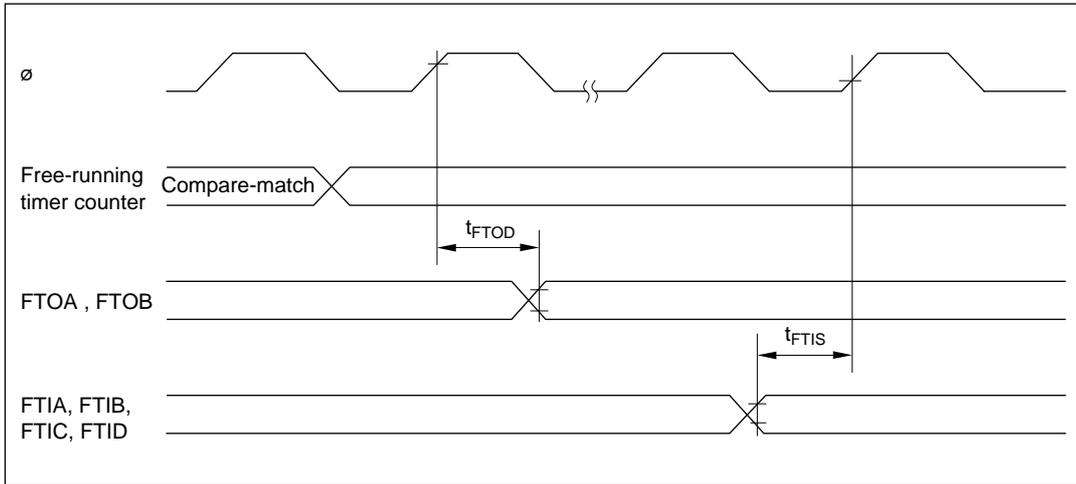

Figure 20-10 Free-Running Timer Input/Output Timing
20.3.3 16-Bit Free-Running Timer Timing	Figures 20-10 to 20-11